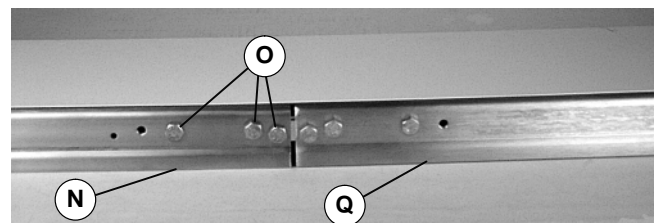

Figure 7
5. Join conveyor sections (N and Q of Figure 7). Install screws (O) on both sides. Tighten to 92 in-lb (10.4 Nm).